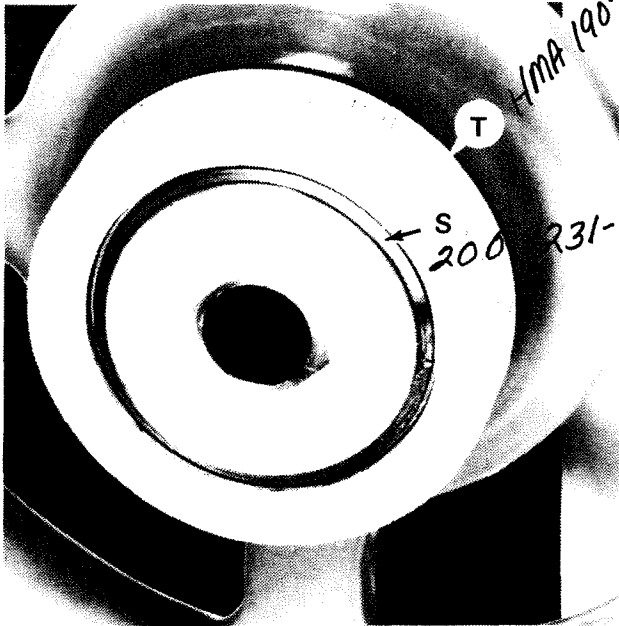

Figure 1.36 - Carriage Handwheel Dial
6. Remove snap ring "S" to remove dial "T", Figure 1.36, from the handwheel.
1. Replace dial "T" on the handwheel; then replace snap ring "S", Figure 1.36.